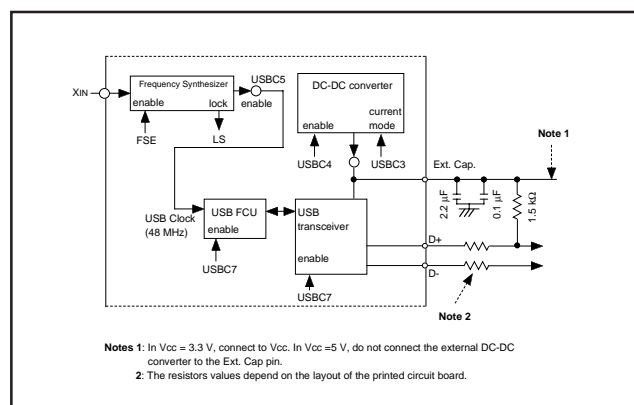

Fig.102 Peripheral circuit
•Connect a capacitor between the Ext. Cap. pin and the Vss pin. The capacitor should have a 2.2  $\mu$ F capacitor (Tantalum capacitor) and a 0.1  $\mu$ F capacitor (ceramic capacitor) connected in parallel. Figure 102 for the proper positions of the peripheral components.